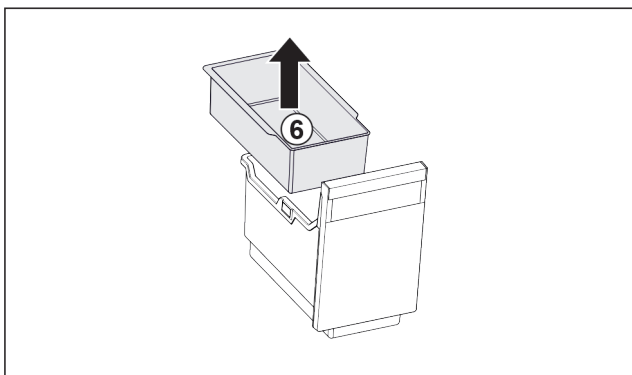

Fig. 83
- ▶ Remove the hang-on tray Fig. 83 (6).